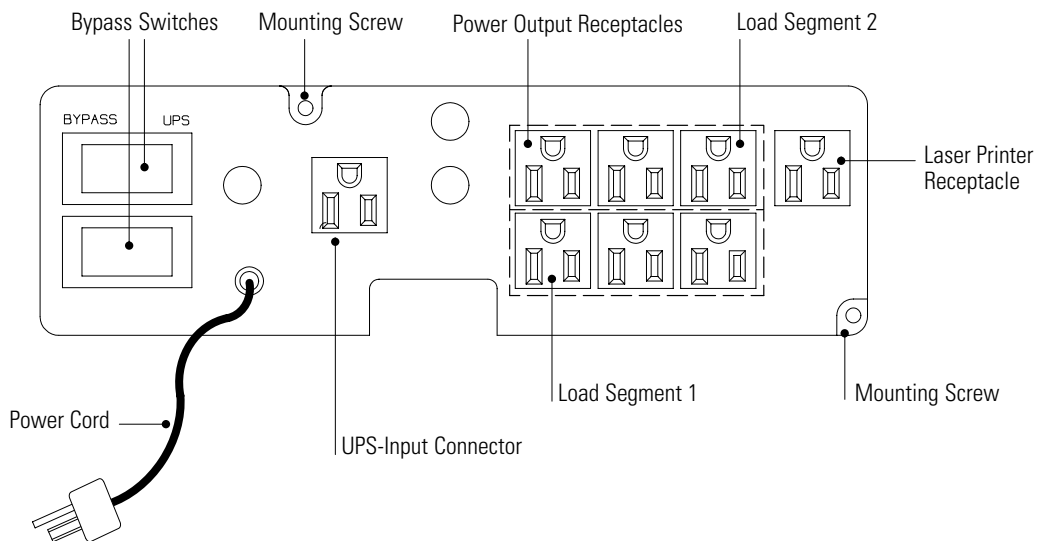
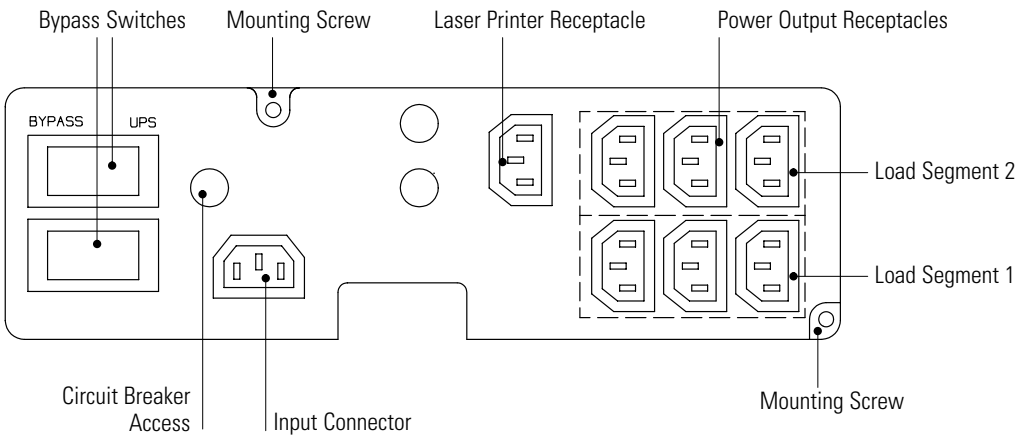

Figure 2. PowerPass for 700–1500 VA, 120V UPS
Figure 4. PowerPass for 700–2000 VA, 240V UPS
7. Verify that both Bypass switches on the PowerPass are in the UPS position (see Figure 2 through Figure 4).
Each PowerPass has two load segments as shown in Figure 2 on page 5 through Figure 4 on page 6.
1. Toggle both Bypass switches on the PowerPass to the BYPASS position (see Figure 2 on page 5 through Figure 4 on page 6). The PowerPass is now powering your equipment from utility power.